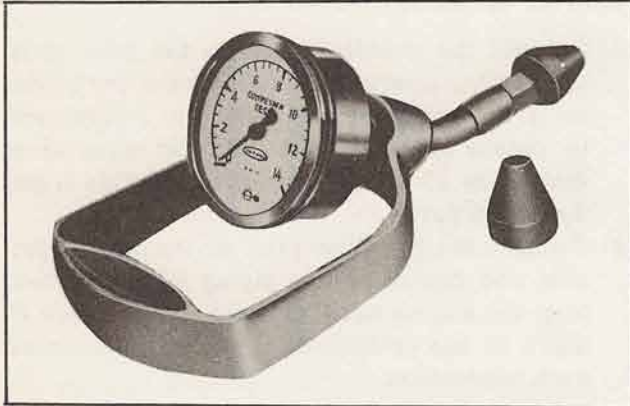

Fig. 1 Compression Gauge
- (1) Check the cooling water: water level and extent of fillthiness.
- (2) Inspect the battery: all connections, level of electrolyte, specific gravity of electrolyte and voltage.
- (3) Inspect the oil: amount, filthiness, classification and viscosity.
- (4) Cleaning of spark plugs and adjustment of their gaps.
- (5) Measurement of compression pressure of cylinder. The standard compression pressure of the engine is approx. 163 lbs. per sq. in. at 350 r.p.m. Measurement of pressure is made in the following manner: (see Fig. 1) First, warm up the engine (temperature of cooling water, 70-80°C) then remove all spark plugs and pull out the throttle knob all the way (that is in the carburetor, the throttle valve and choke valve are fully opened); press a compression gauge against each spark plug hole, and, running